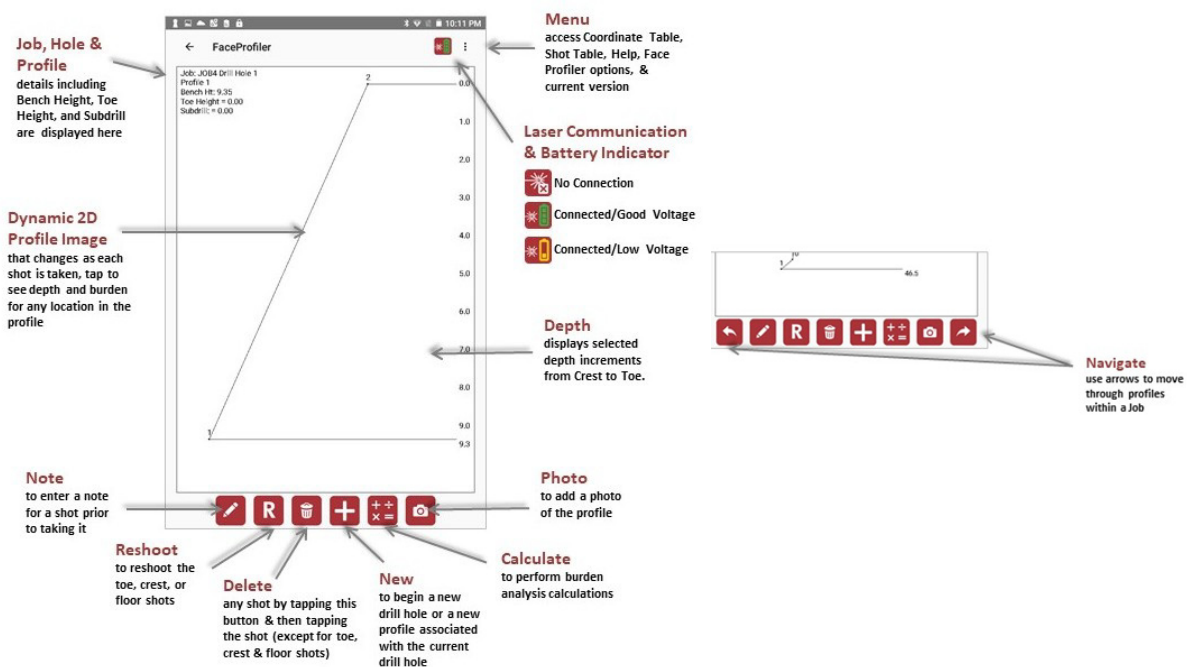

Figure 19
3. Press the laser's FIRE button. The Android device will beep when data arrives from the laser. The data will be stored; and the Shoot Profile screen will display (Figure 19, Page 15).
After the Floor Shot is taken or skipped, the Shoot Profile screen is displayed (Figure 19). This example shows the initial plot, with a straight line from the Toe to the Crest. Remember that the toe, crest and floor shots may be retaken at any point in time while that profile is open.